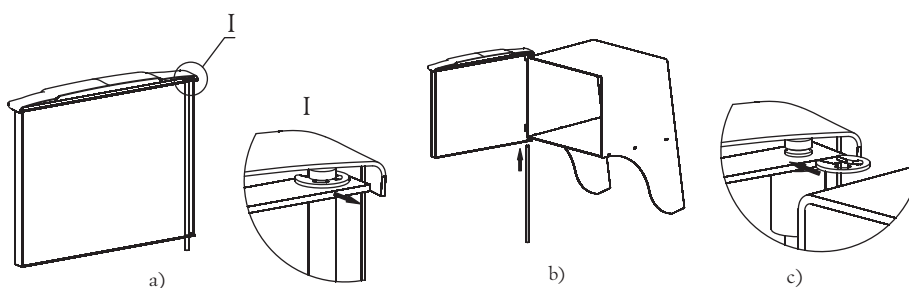

Figure 9. Assembly of the door under installation of the stove.
1. Remove a stop quick-detachable collar, then remove the axis out of the door, see figure 9.a;
3. Set an axis from bottom to top through holes. Place a groove under a collar in the top part of an axis, see figure 9.b;
4. Install a stop quick-detachable collar in a groove on an axis, see figure 9.c.